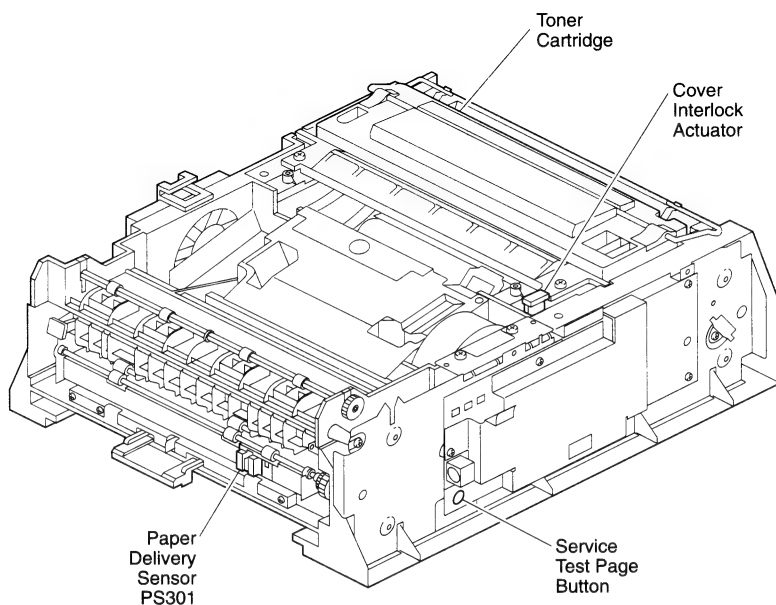

Figure 9 Printing a Service Test Page
6. Press down on the toner cartridge and the cover interlock actuator (see Figure 9) while you press the service test page button with a screwdriver.